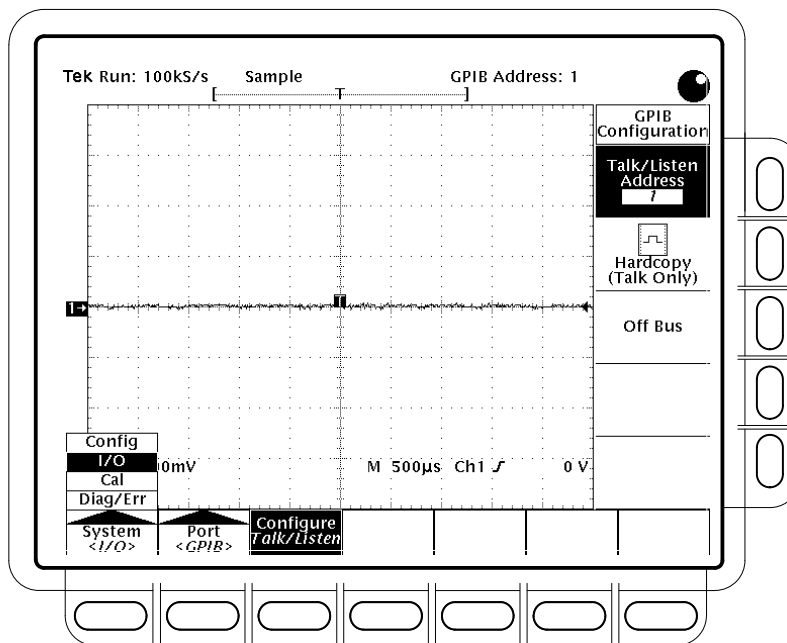

Figure 1-8: Selecting the I/O System in the Main Menu
2. Press the **System** button in the main menu until it highlights the **I/O** selection in the pop-up menu. See Figure 1-8.